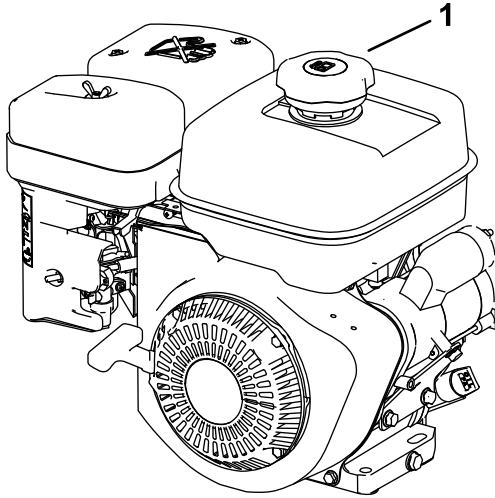

Figure 8
3. Clean around the fuel-tank cap and remove it (Figure 8).
4. Fill the tank with fuel (Figure 8) to within 6 to 13 mm (1/4 to 1/2 inch) from the top of the tank. **Do not fill into the filler neck of the tank.**